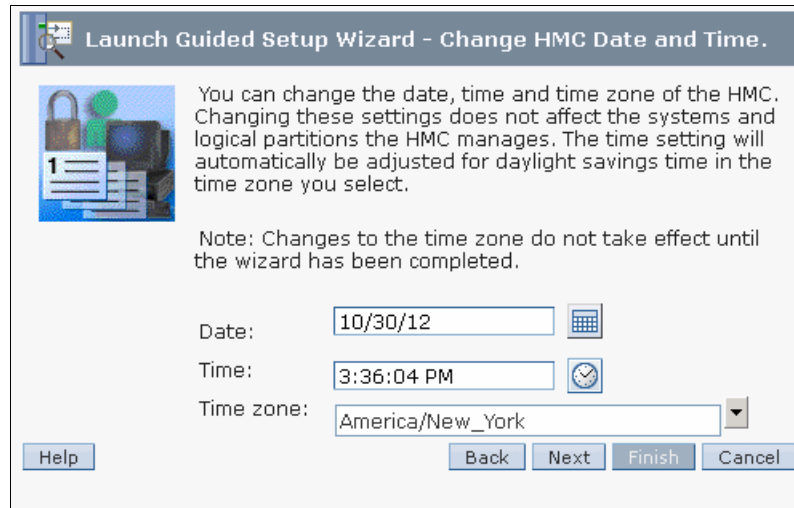
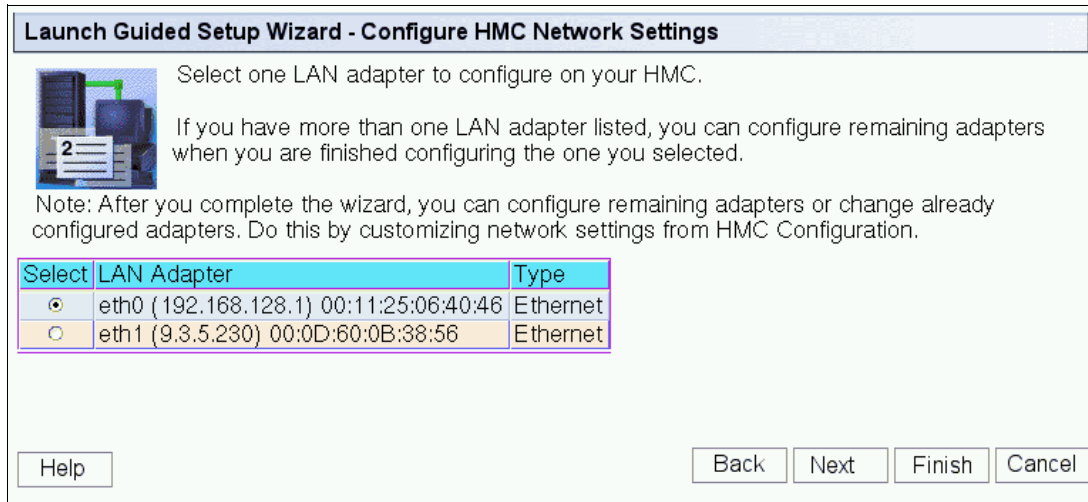

Figure 3-6 Change Date and Time
Figure 3-7 Configure HMC Network Settings
2. In the Launch Guided Setup Wizard: Change HMC Date and Time page, enter the correct date and time and time zone for your location (Figure 3-6 on page 66). Click **Next** to continue with the Guided Setup wizard (Figure 3-7 on page 67).
7. The Launch Guided Setup Wizard - Configure HMC Network Settings panel is displayed, as shown in Figure 3-7. In our example, we see two LAN adapters available (*eth0* and *eth1*), although you might see only one adapter in your HMC system.